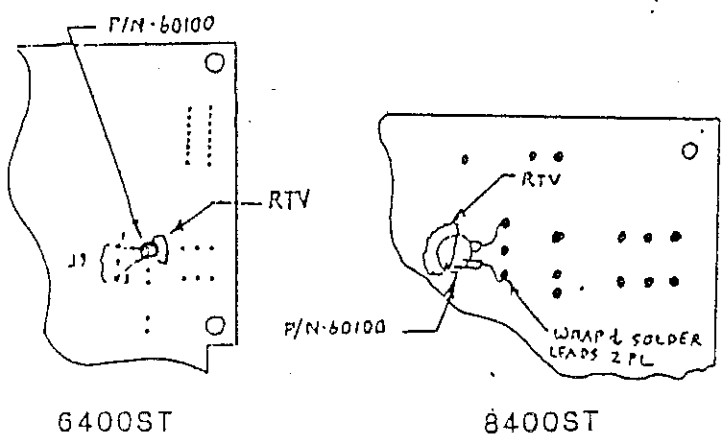

Figure 2
- On the solder side of the Power PCB, carefully remove the Mylar insulator and locate solder pads of J9. See Figure 2.
- Carefully solder the MOV (P/N 60100) to the other pins (1 and 3) of J9. Lay the MOV (P/N 60100) over flat on the board and secure it with a small dab of RTV. See Figure 2.